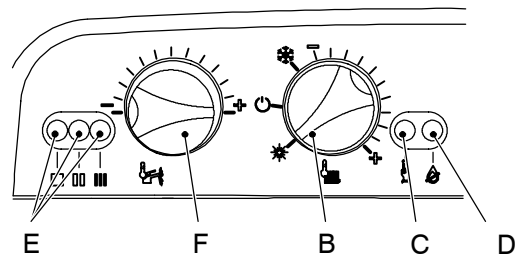

Fig. 11.7
- 22 Set the knob F to the maximum position as illustrated in Fig. 11.7.